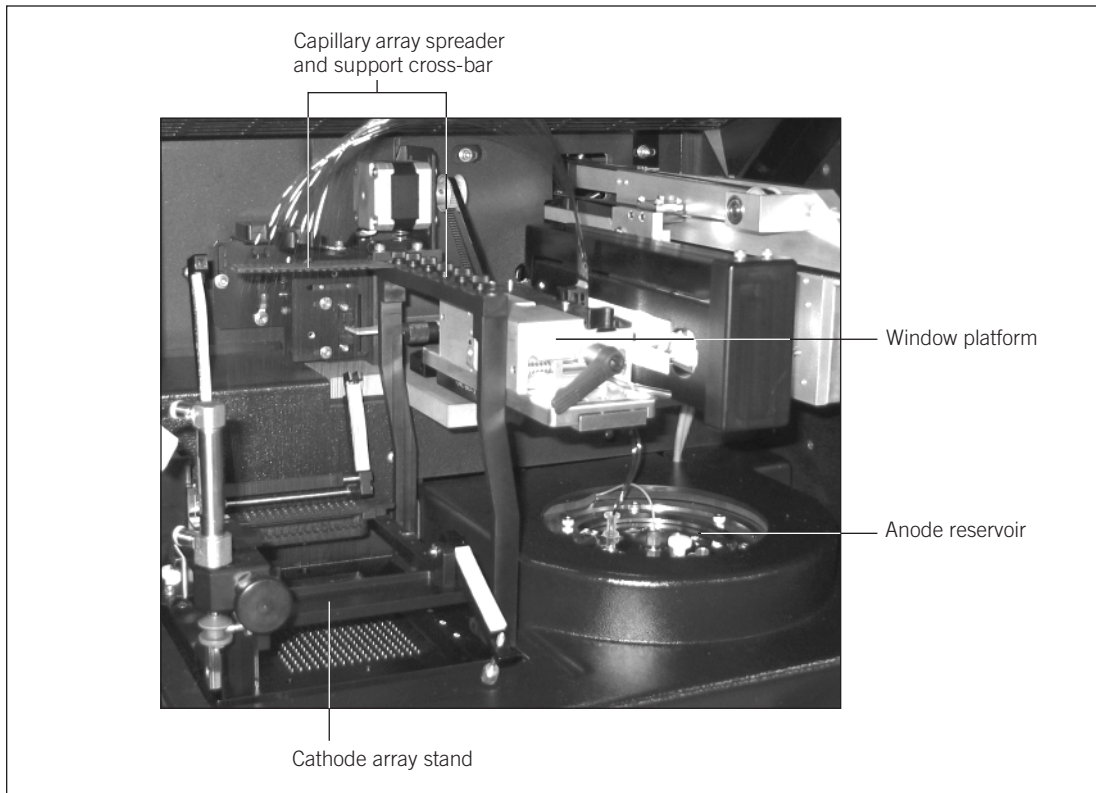

Figure 7-5. The electrophoresis compartment and the capillary array locks with one installed capillary array.
Four locks hold the capillary arrays in place (figure 7-5): cathode array stand, the window platform, the anode cover on anode reservoir, and the array spreader and support cross-bar.
3. Loosen the thumbscrew on the support cross-bar to release the array spreader on capillary array (figure 7-5).
1. Make sure the array spreader for position 6 is disengaged from the array support cross-bar (figure 7-5).